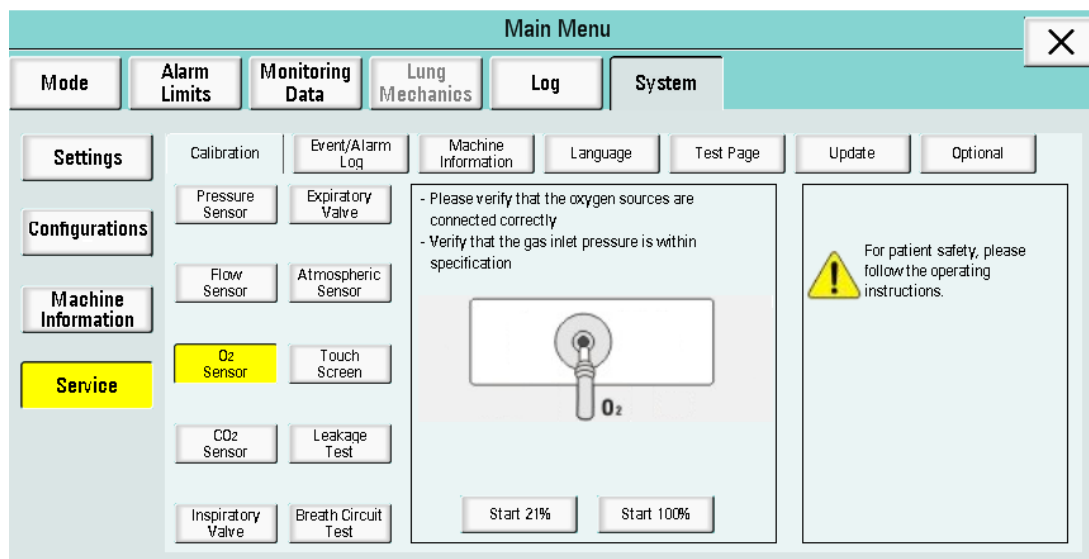

Figure 6-62
(3) O₂ Sensor Calibration: Click “O₂ Sensor” to enter the interface. A message displayed: “Please verify that the oxygen source are connected correctly. Verify that the gas inlet pressure is within specification.” A legend will also be shown. There are two keys below the legend: “Start 21%” and “Start 100%”. Choose the needed one and click, as shown in Figure 6-62. The remaining procedure is the same as described above.